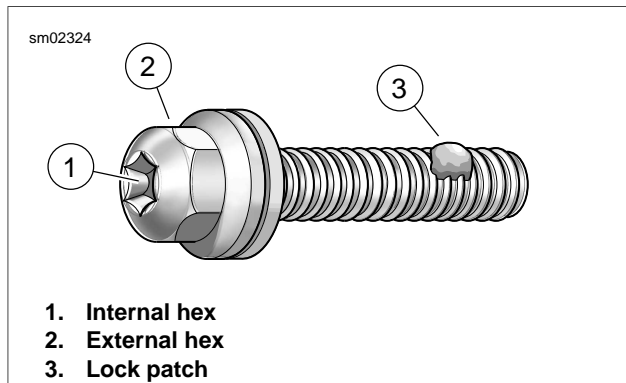

Figure 3-17. Rocker Cover Bolt (Rocker Housing Bolt Similar)
- See Figure 3-17. If the engine is left in the chassis for service, use the **UPPER ROCKER BOX WRENCH** (Part No. HD-47258) and **LOWER ROCKER BOX WRENCH** (Part No. HD-47248) to remove the rocker cover and rocker housing bolts, respectively. These tools are especially useful when removing the bolts on the left side of the engine (particularly the rear) where there is close proximity to the frame. With both an external and internal hex, the bolts also can be removed with either a 7/16 inch socket or open end/box wrench (open spaces), or a short 3/16 inch allen wrench (tight spaces).